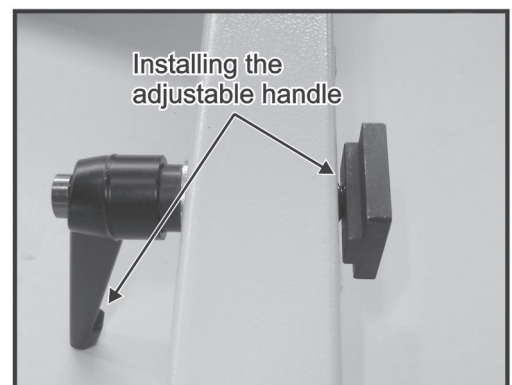

Fig. 14
1. Thread the M12-1.75x55 adjustable handle with a 12mm flat washer through the crosscut table and into a M12-1.75 T-nut. (Fig. 14)